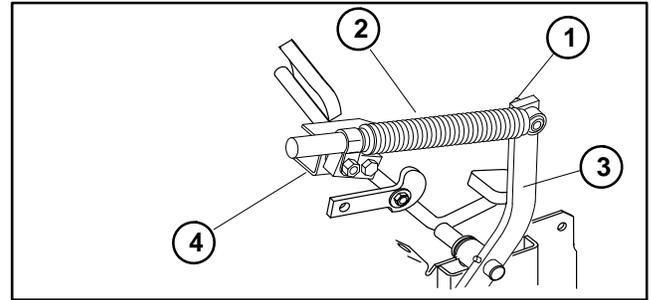

Figure 27
## Traction (Electric) Clutch (Fig. 27 through 31)
4. Remove the flanged nut securing the dampener to the traction arm. Remove nut, lock washer and flat washer securing the dampener to the U-bracket support. Remove the dampener (Fig 27).
11. Attach the dampener to the traction pedal and U-bracket support (Fig. 27). Adjust the traction pedal (see Adjustments section of Chapter 4 – Hydraulic System).